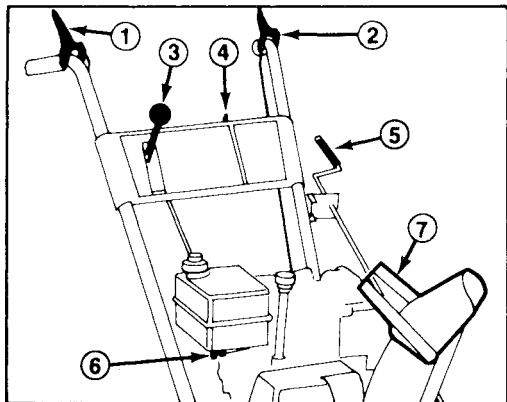

Figure 14
**Auger Drive Control** (Fig. 14) — Control has two positions: ENGAGE and DISENGAGE. To engage auger and impeller, compress lever against right handle grip. To disengage, release lever.
**Traction Control** (Fig. 14) — To achieve traction, lever must be compressed against left handle grip. To stop traction, release lever.
**Speed Selector** (Fig. 14) — The control has four positions: reverse, 1, 2 and 3. To change speeds, move gear shift to position desired. Lever will lock in notch at each speed selection. Use positions 1, 2, and 3 depending on snow conditions.
**Ignition Switch** (Fig. 14) — Switch has two positions: ON and OFF. Rotate key to ON before starting engine with the recoil starter. To stop engine, rotate key to OFF.
**Fuel Shut-Off Valve** (Fig. 14) — Valve is located under fuel tank. Close valve to stop fuel flow from fuel tank and open valve to allow fuel to flow to the carburetor. Close valve when snowthrower is not used.
**Discharge Chute Control** (Fig. 14) — Rotate discharge chute control clockwise to move discharge chute to the left and counterclockwise to move chute to the right.
**Chute Deflector Handle** (Fig. 14) — Deflector handle is on top of discharge chute and it is used to control height of the snow stream.
3. Open fuel shut-off valve below fuel tank (Fig. 14).
5. Rotate ignition key to ON (Fig. 14).
1. Release traction and auger drive control (Fig. 14).